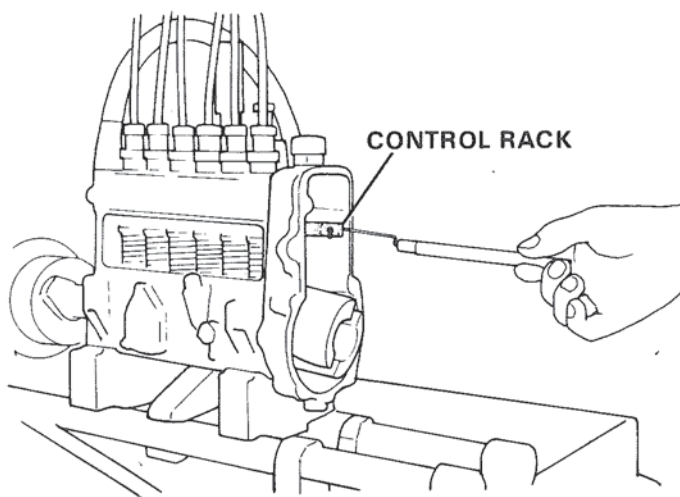

Figure 27. Checking Control Rack Resistance.
A. Check control rack resistance: standard is 150 g (5.29 oz.) or less at 0 RPM. Figure 27.